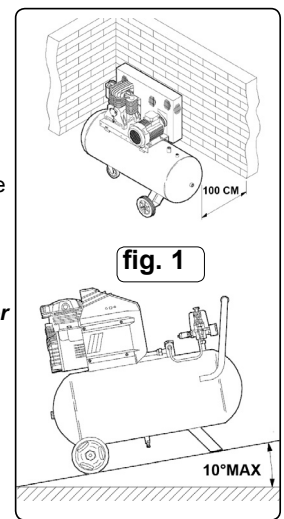

fig. 1
- 4.5. Position the compressor on a flat surface or with a maximum permissible inclination of 10° (fig.1). Site in a well ventilated area, protected against atmospheric pollution and not in a place subject to explosion hazard. If the surface is inclined and smooth, check if the compressor moves whilst in operation – if it does, secure the wheels with two wedges. If the surface is in a raised position, make sure it cannot fall, securing it in a suitable way.